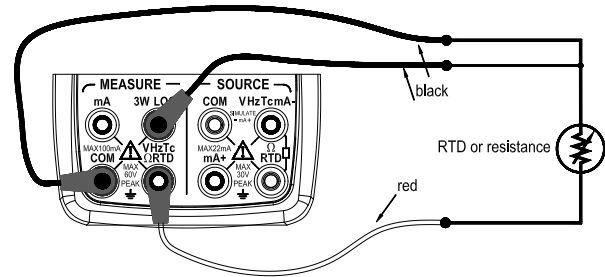

Figure 13 RTD signal with 3w method
Three wire connection method for RTD signal (Figure 13)
Step 3: Connect the lead cables for measurement to the measuring terminals of the measuring instrument under test as shown in Figure 13.